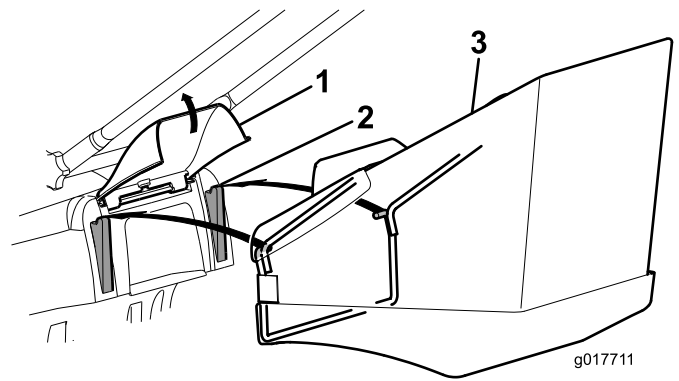

Figure 14
1. Lift the rear door, remove the mulch plug (Figure 15), and install the grass bag onto the lugs (Figure 14).